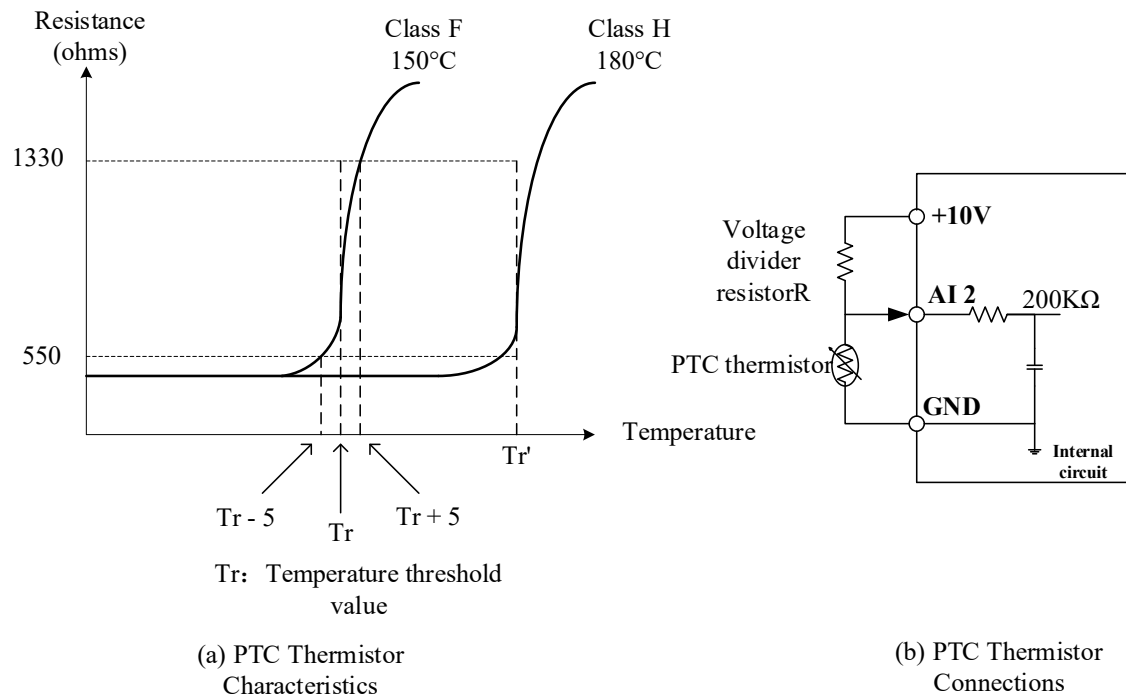

Figure 4.3.98 (a) Positive temperature coefficient (PTC) thermistor resistance vs. temperature characteristics; (b) Terminal wiring diagram
- The PTC thermistor should be connected between terminal AI2 and GND, with a voltage-dividing resistor R added, as shown in Figure 4.3.98 (b).
- (1) The inverter behavior in response to motor overheat is as follows:
- (2) When parameter 08-35 = 0, motor overheat protection is disabled.
- (3) When parameter 08-35 = 1 or 2 (stop operation when motor overheats), and motor temperature increases such that the AI2 voltage level exceeds the value set in [08-44 PTC Warning Level], and the delay time set in parameter 08-39 has elapsed, the motor overheat protection activates. The digital operator displays the fault message “OH4 Motor overheat,” and the motor either decelerates to a stop (08-35 = 1) or performs a free-run stop (08-35 = 2).
- (4) When parameter 08-35 = 3 (continue operation when motor overheats), and the AI2 voltage level exceeds the [08-44 PTC Warning Level], the digital operator displays “OH3 Motor Temp Warning,” and the motor continues running. If the AI2 level exceeds [08-42 PTC Protection Level] and the delay time set in 08-39 has elapsed, overheat protection activates and the operator displays “OH4 Motor overheat,” after which the motor performs a free-run stop.
- (5) When parameter 08-35 = 1, 2, or 3, the fault “OH4 Motor overheat” can be cleared once the AI2 voltage level drops below [08-43 PTC Reset Level].
- (6) External PTC Thermistor Characteristics (per British Standards):
In the motor overheat protection diagram shown in Figure 4.3.98, the reference temperature (T_r) is 150°C for Class F insulation and 180°C for Class H insulation.